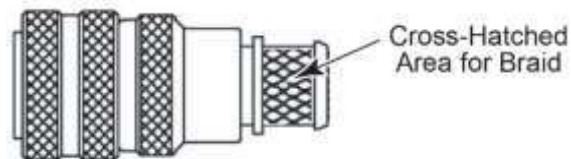

Figure 25
- (27) Pull copper braid over the back of the backshell so it completely covers the cross-hatched area (Figure 25) on the back of the backshell. For AF-P1 and AF-P2 only, secure copper braid under backshell saddle clamp and tighten clamp.